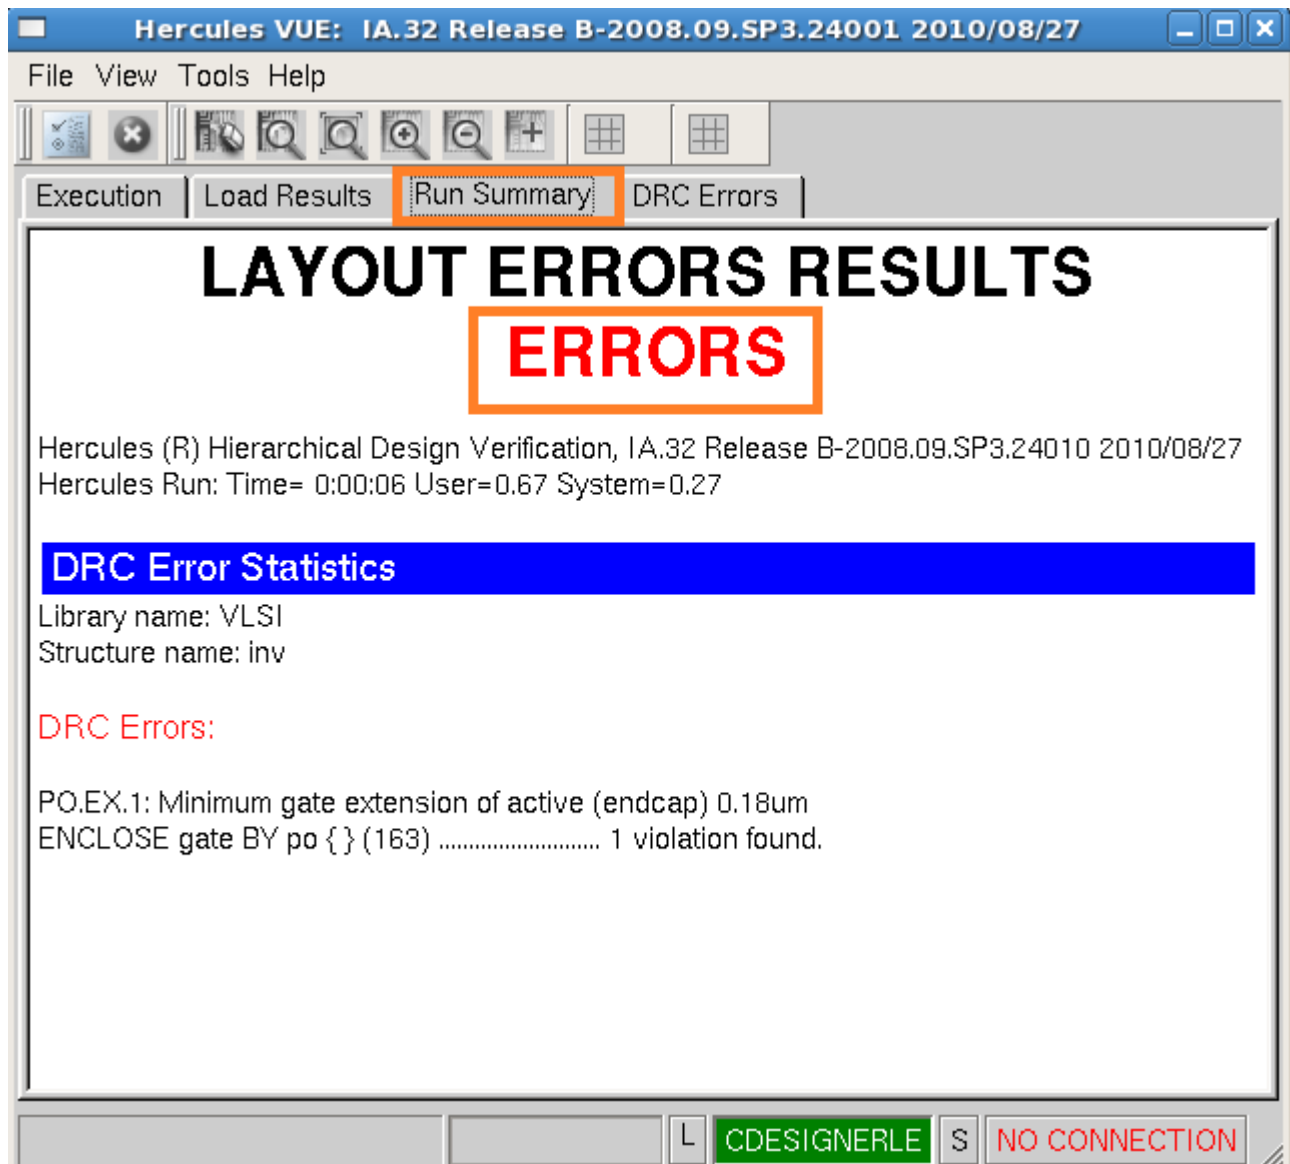

Figure 43 : DRC debug window.
- f. If your design has layout violations, a window like fig (43) will pop up.
- g. Figure 43 can also be obtained by going to *verification > DRC > Debug*. This window will give you a list of the errors in your design and will help you identify them by highlighting them as shown in fig (44) and fig (45).